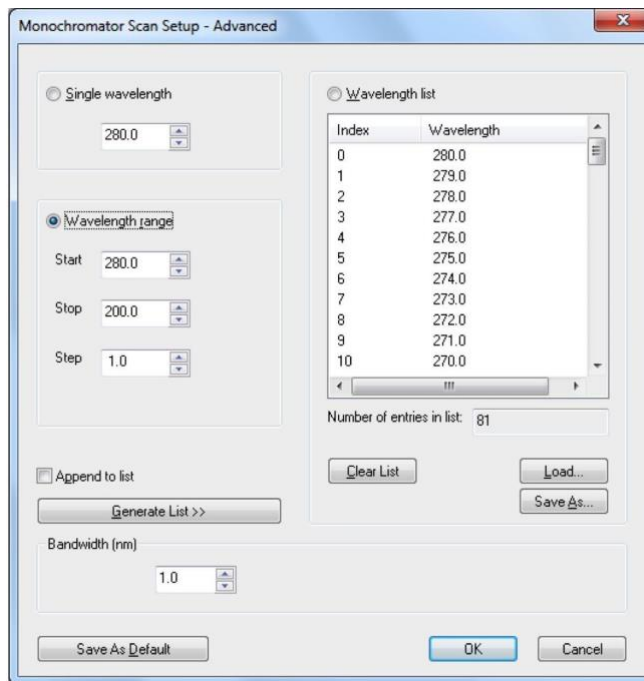

Figure 4. The Monochromator Scan Setup - Advanced dialog box
- To save the current monochromator parameters as the default ones, click on the **Adv...** button, which displays the **Monochromator Scan Setup - Advanced** dialog box (Figure 4) and click on **Save As Default**. Click **OK** to take you back to the Pro-Data SCP.
- The **Monochromator Scan Setup - Advanced** dialog box (Figure 4) can be used to set the software up to perform single wavelength scans. Such measurements are useful when following a change in property as a function of some independent variable other than wavelength - temperature, for example.